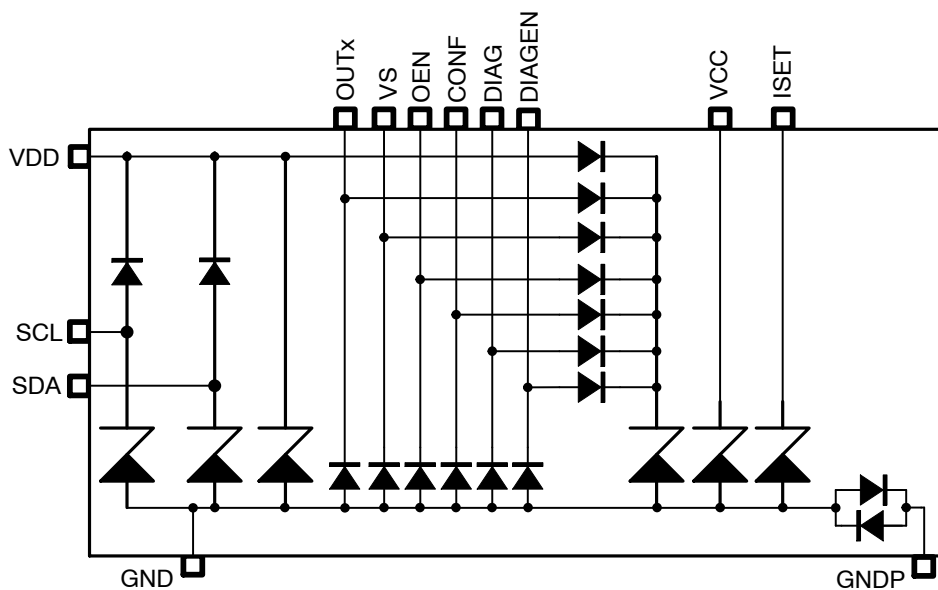

Figure 2. ESD Schematic
- The I²C pins (SCL-and SDA-pins) must be left NC or connected to GND as those pins are internally protected via internal diodes to VDD-pin (See Figure 2)